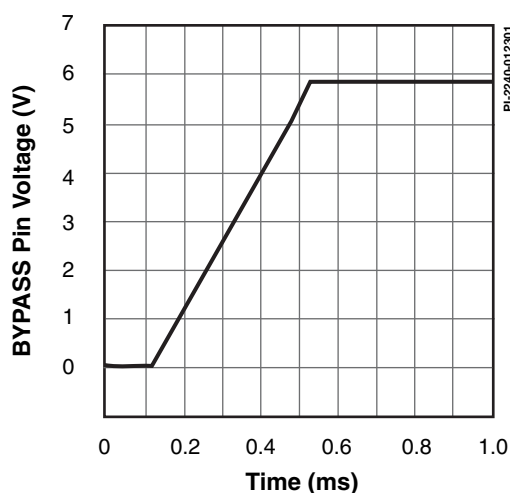

Figure 16. BYPASS Pin Startup Waveform.
- D. See Typical Performance Characteristics section Figure 16 for BYPASS pin startup charging waveform.